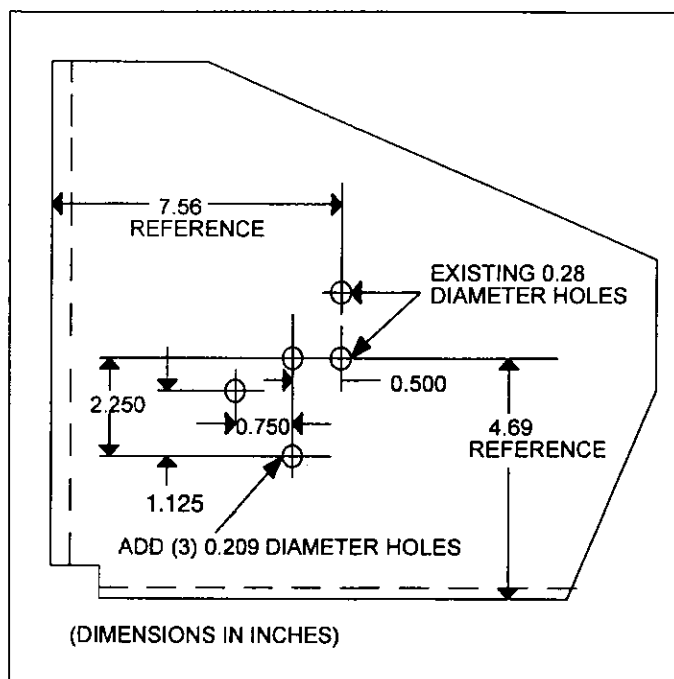

Fig. 3-3. Flux Shifter Mounting Hole Pattern
The flux shifter mounting holes must be added to the left side of the front frame. The drill pattern for the required three (3) 0.209 diameter holes is given in Fig. 3-3.